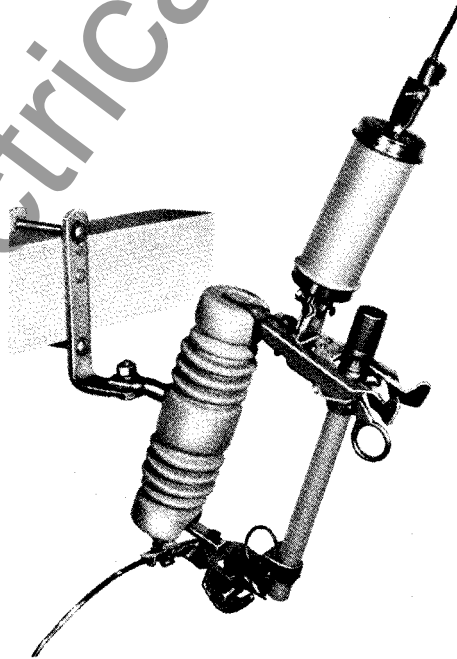

Figure 3. CLTX vertically mounted on source side of cutout
1. Conventional transformer with fused cutout. The usual method of mounting is to attach the CLTX to either the source side or the load side of the distribution fuse. The fuse can be attached to the cutout source side (break jaw end) in a vertical upright position as illustrated in Figure 3. Where overhead clearance is at a premium, the CLTX can be mounted in a horizontal position extending from either side of the distribution fuse mounting providing the connector will accommodate the CLTX fuse and the connector is keyed to prevent fuse rotation.